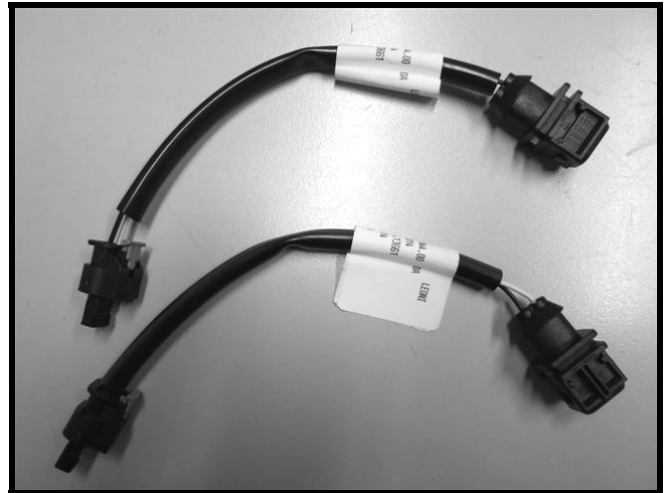

Fig. 22
- 4 In this case mount one TECHART adapter line each (fig. 22) between the respective cycle valve and the TECHART wiring harness.